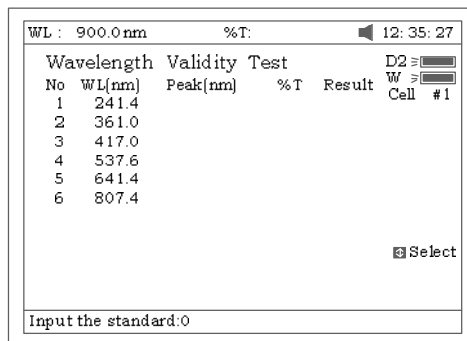

Fig 96
1. Press **[F1]** to set the standard peak. Press **[ENTER]** to edit and input wavelength by pressing the numeric keypad (Fig96). **[ESC/STOP]** to finish inputting and exit.